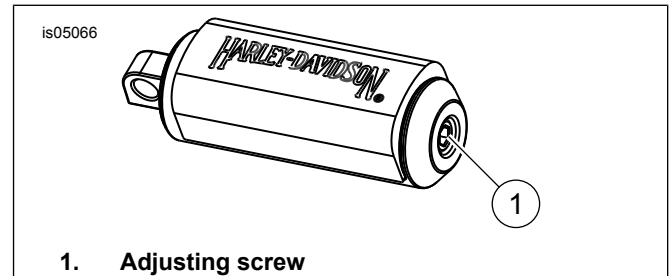

Figure 1. Footpeg Adjusting Screw
4. See Figure 1. For each footpeg, position the footpeg as desired, then righten the adjusting screw (1) to 29 N·m (21 ft-lbs).